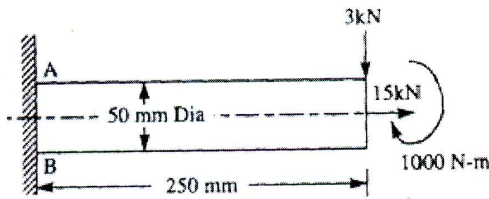

Fig.Q2(c)
- c. A shaft shown in Fig. Q2(c) is subject to axial, bending and torsional load. Determine; 14